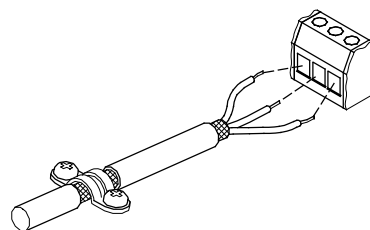

Fig. 7 Stripped cable with screen and wire connection
- Connect the screens of the cables to frame at both ends with good frame connection. The screens must be as close as possible to the terminals. See fig. 7.